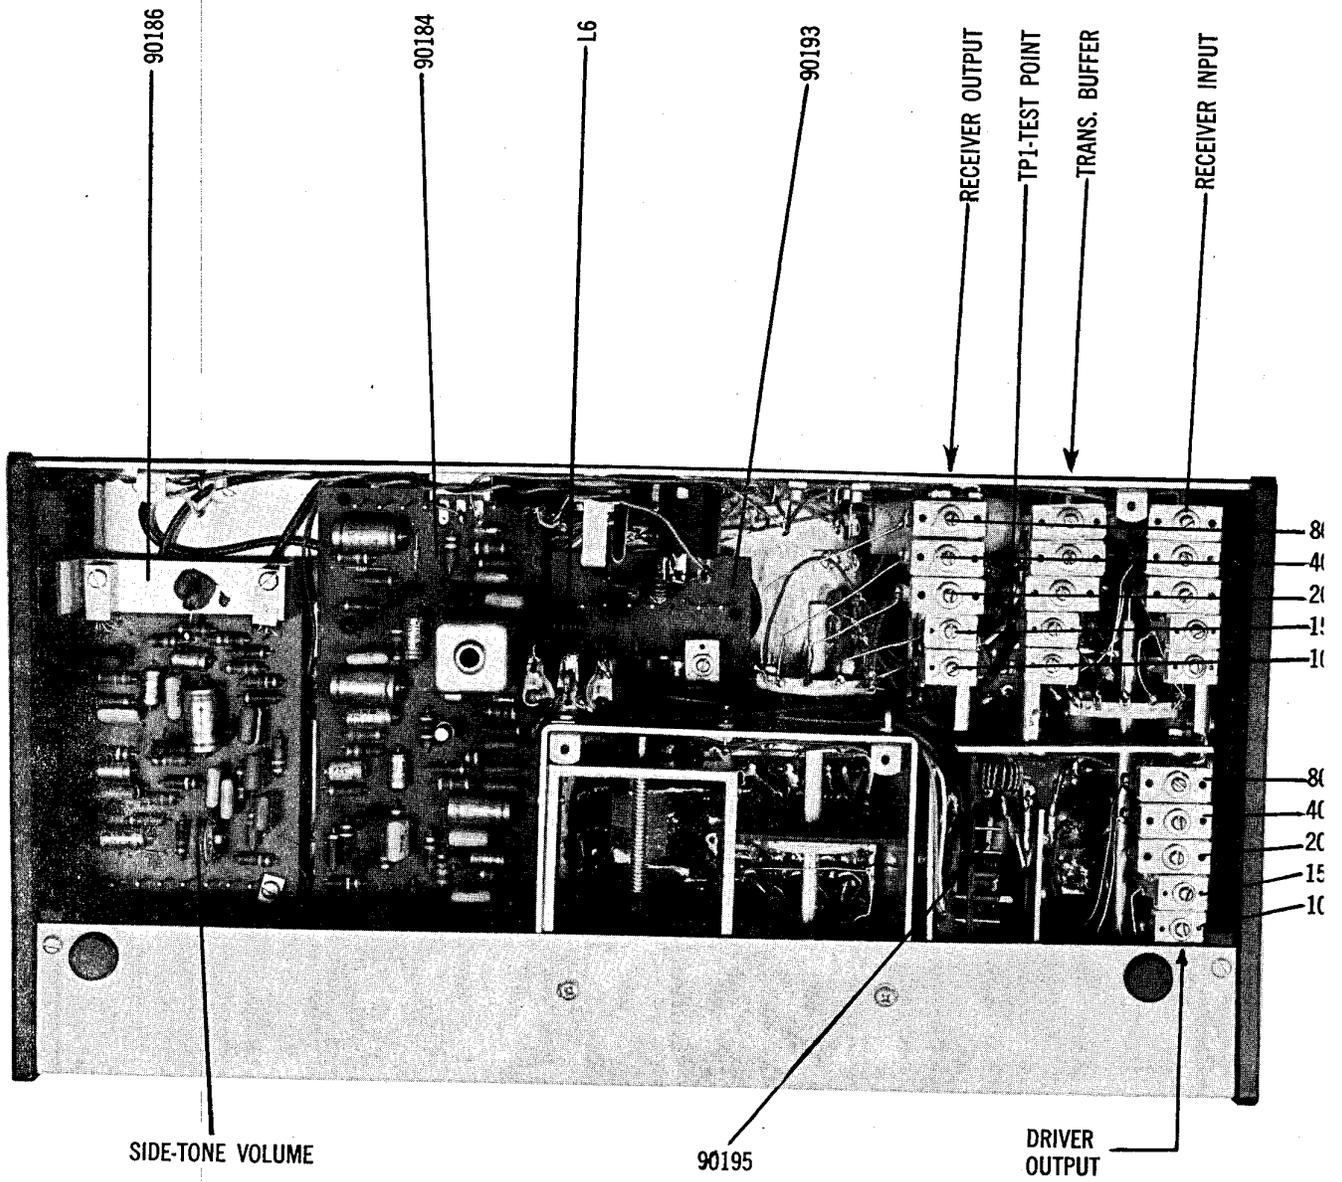

FIGURE 1
- 2.) Oscilloscope to test point 1 shown in figure 1.
- 8.) Tune the buffer and driver trimmers for maximum output. Trimmer location is shown in figure 1.
- 3.) Adjust the mixer trimmer, located on the TRANS/RECV mixer board, the buffer and driver trimmer for maximum output. (Fig. 1 & 2).
- 1.) Connect a two-tone test oscillator of approximately 150 mv output to the microphone input. Set function switch to SBN and ground the key jack. Set the bandswitch to 10 and rotate the RESONATE control for maximum output. Set the microphone gain to show slight flat-topping of the two-tone signal. Adjust coil L6 for maximum output. This will be very broad. The output voltage should be approximately 9.0 vrms when measured with a peak responding meter. This filter is set to roll off above 30 MHz. (Fig. 1)
- 6.) Connect generator and tune the trimmer capacitors for maximum output. (Fig. 1)